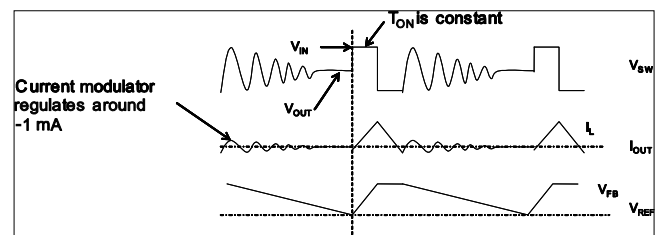

Figure 3—DCM operation
DCM operation is shown in Figure 3. When V_{FB} is below V_{REF} , the HS-FET is turned on for a fixed interval, which is determined by the one-shot on timer. See Equation (1). When the HS-FET is turned off, the LS-FET is turned on until the inductor current reaches zero. In DCM operation, the V_{FB} does not reach V_{REF} when the inductor current approaches zero. The LS-FET driver turns into tri-state (high Z) when the inductor current reaches zero. A current modulator takes over the control of the LS-FET and limits the inductor current to less than -1 mA. Hence, the output capacitors discharge slowly to GND through the LS-FET. As a result, the efficiency at light-load is improved greatly. The HS-FET is not turned on as frequently during a light-load condition as it is during a heavy-load condition (skip mode).